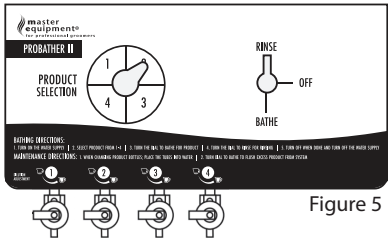

Figure 5
6. Turn the function knob to RINSE, as shown in Figure 5 and rinse the pet thoroughly.